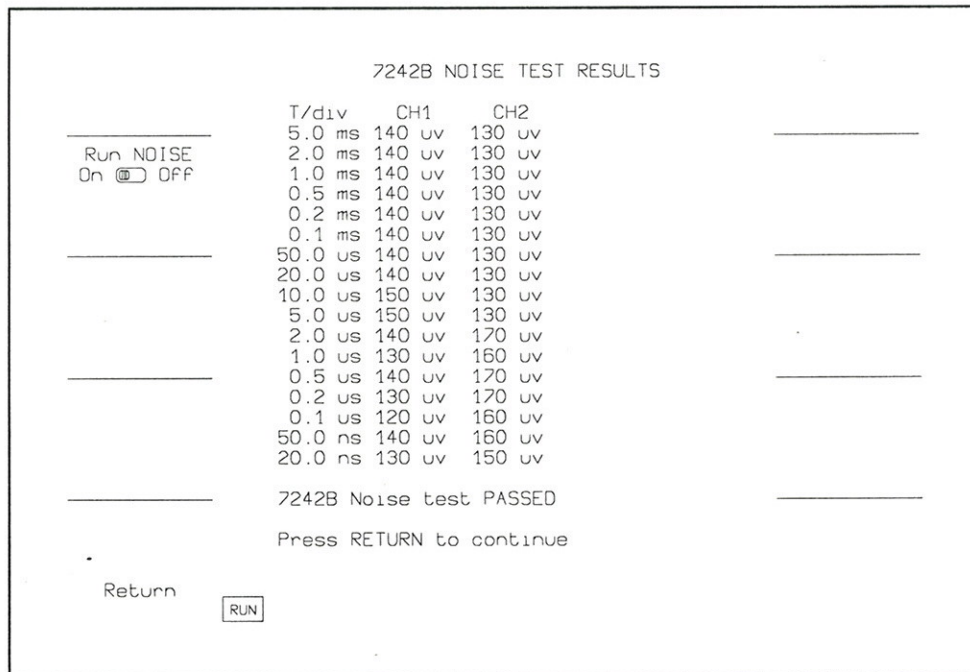

Fig 2.4
- If the selected LOG TYPE is either Printer or Floppy then the noise data will be collected automatically. If NO LOG was selected, when the test is complete the results will be displayed on the screen as in Fig 2.4. Record these results in table 2.1. Follow the displayed instructions.